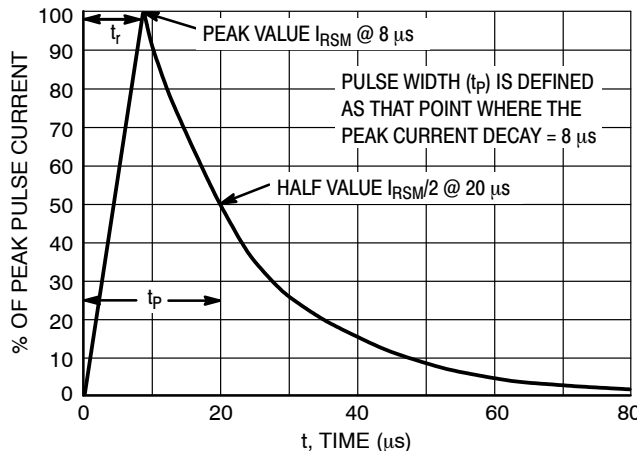

Figure 5. 8 x 20 μs Pulse Waveform
4. Surge current waveforms per Figure 5.